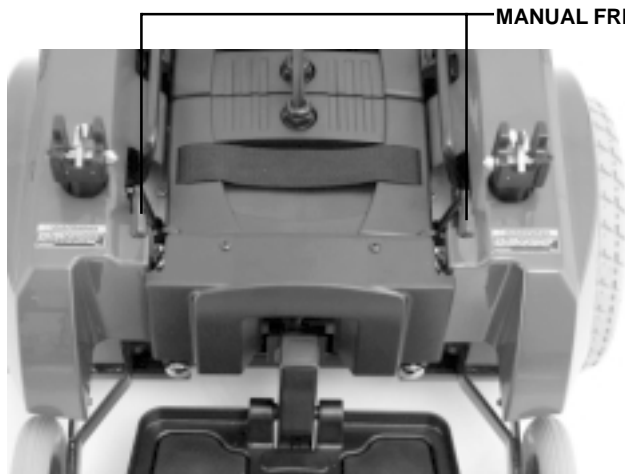

Figure 5. Drive Motors Engaged
For convenience, your Jet 7 is equipped with two manual freewheel levers located on the front of your Jet 7. See figures 5 and 6. These levers allow you to disengage the drive motors and maneuver the chair manually.
1. Locate the two (2) manual freewheel levers protruding through the body shroud.
2. Turn the levers forward to engage the drive motors. See figure 5.